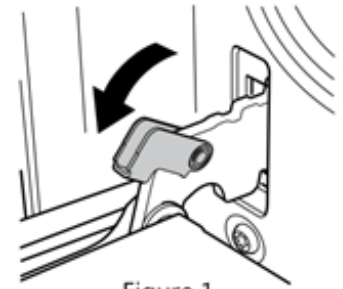

Figure 1
① Open the door to the maximum angle and pull the lock back at the hinge of the door(Figure 1). There are two locks on both sides of the oven door.